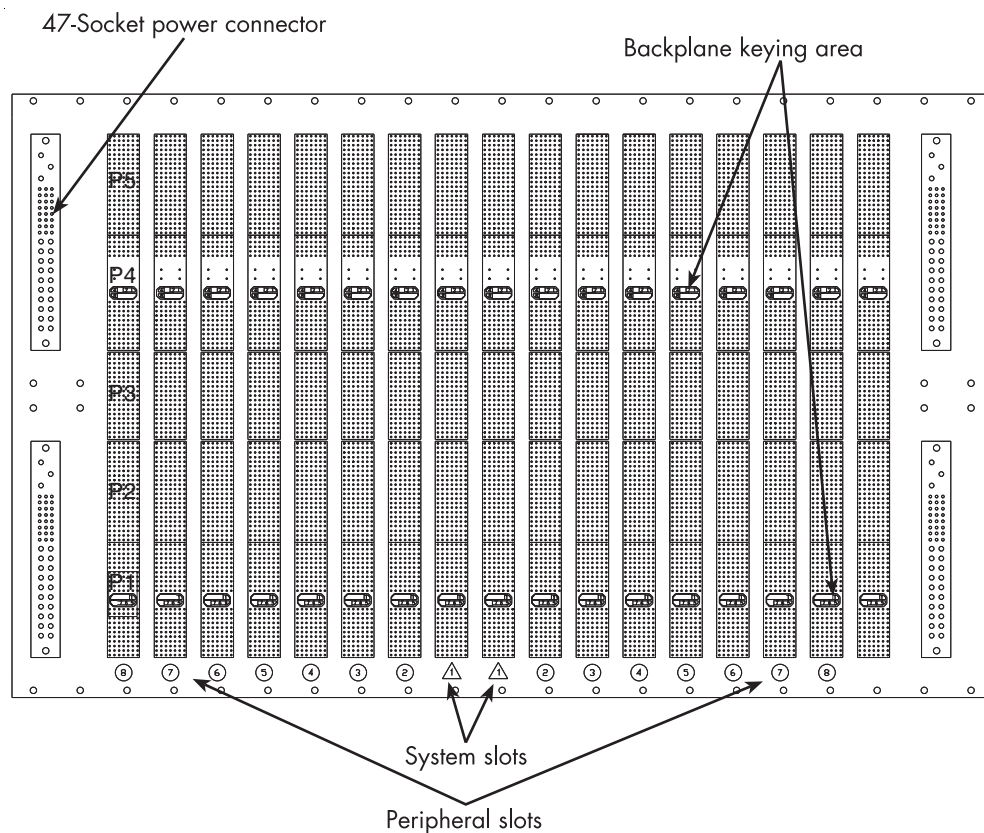
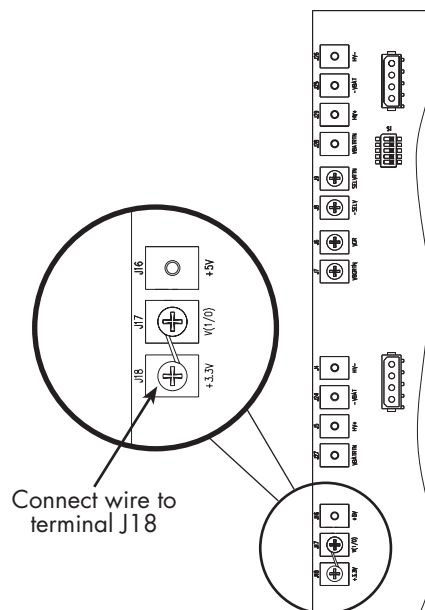

Figure 9. Front view of backplane
Figure 12. Connecting 3.3V ring terminal screw and wire
The front view of the 6U Model 5406 Backplane/Midplane is shown in figure 9.
- Keeping the wire connected to the V(I/O) terminal, connect the other end of the wire to the +3.3V terminal (labeled J18), securing the screw in the ring terminal with a phillips screwdriver (see figure 12).
Consistent with CompactPCI specifications, the CPCI bus segment consists of one system slot, and seven peripheral slots. The system slot is denoted with a “triangle” compatibility glyph, and the seven peripheral slots are marked with a “circle”. The 6U CPCI Model 5406 backplane/midplane has two, electrically separate CPCI bus segments. In CPCI bus segment one, the system slot is on the right, and in CPCI bus segment two (see figure 12), the system slot is on the left (see also figure 9 on page 33, which shows both bus segments together).